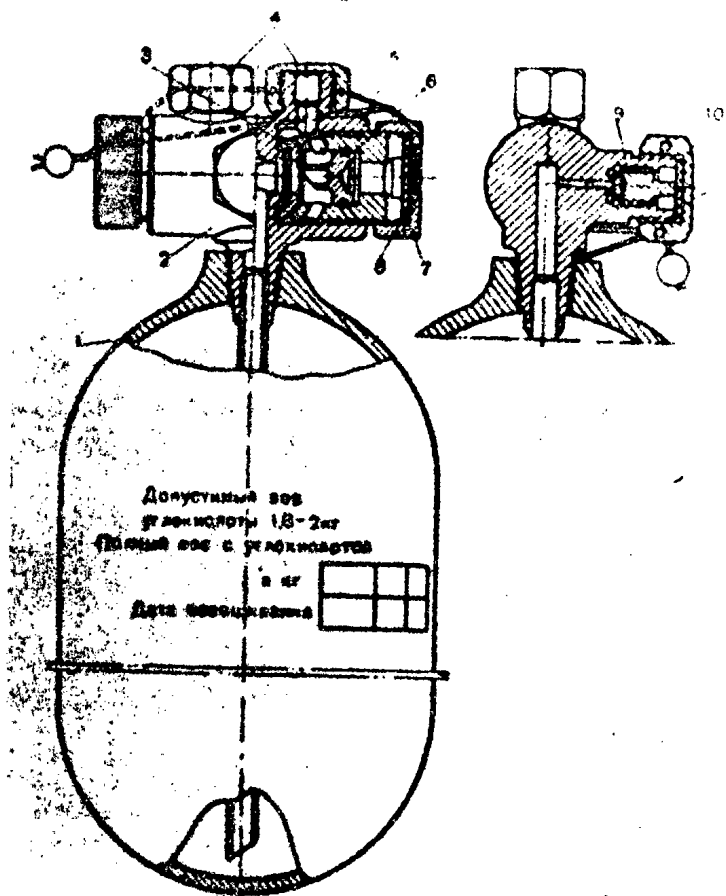

Fig 239. CO2 Cylinder.
2. Unscrew the lock-on nut (7) (See Fig 239), disconnect the electric leads and bind the ends with insulating tape.